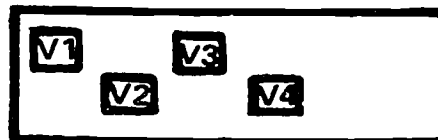

Figure 3-3. Sequential numbering.
Sequential numbering. Sequential numbers are assigned to recognizable areas, assemblies, subassemblies, or parts within units, assemblies, and subassemblies. Figure 3-3 illustrates a typical sequential number assignment.
7. Referring to figure 3-3 of the text, what would be the identification assigned to the drawer in the lower right corner of the rack?